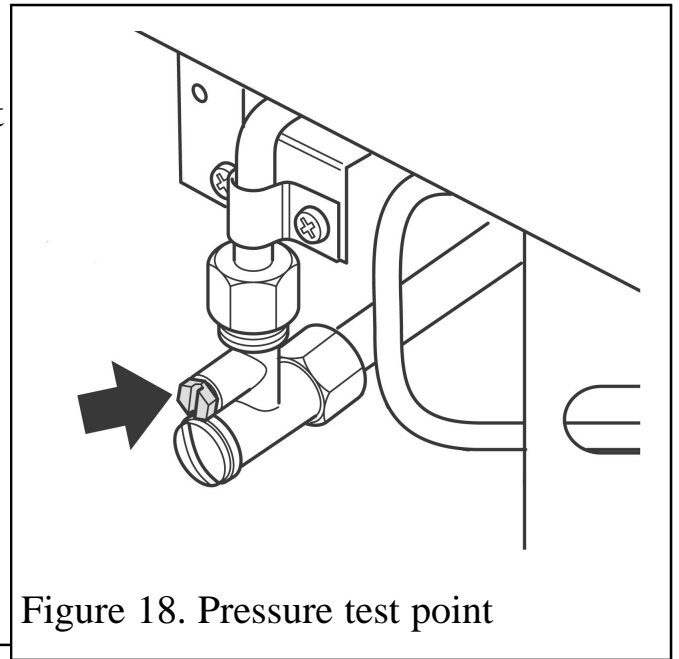

Figure 18. Pressure test point
1. Check the inlet pressure by fitting a pressure gauge at the test point. The test point is on the inlet 'T' connector (See figure 18). Check the pressure with the appliance alight